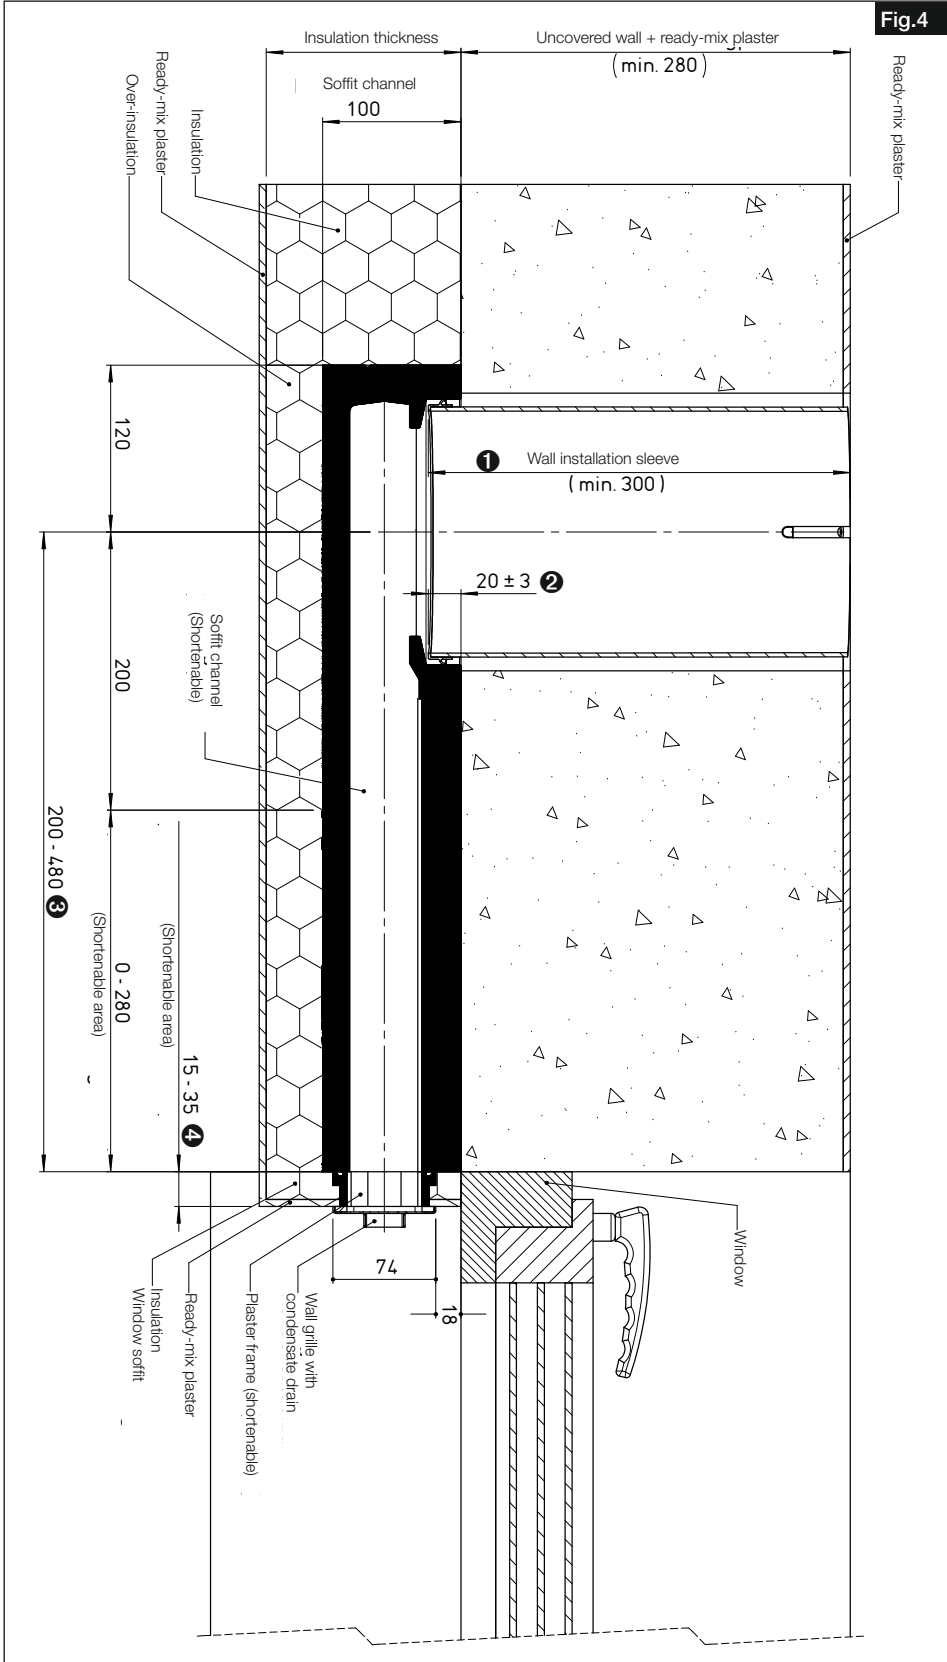

Fig.4
5. Note the installation instructions for shutters and blinds in Figure 4!
The length of the wall installation sleeve comprises the thickness of the uncovered wall with internal ready-mix plaster and the immersion depth (2) in the soffit channel (see Fig. 4 & 5).
Note interfering contours! The shutter rail or the like must pass over the wall grille, see Fig. 4.